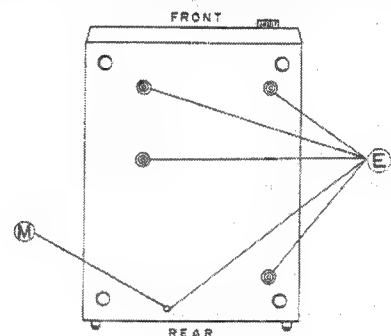
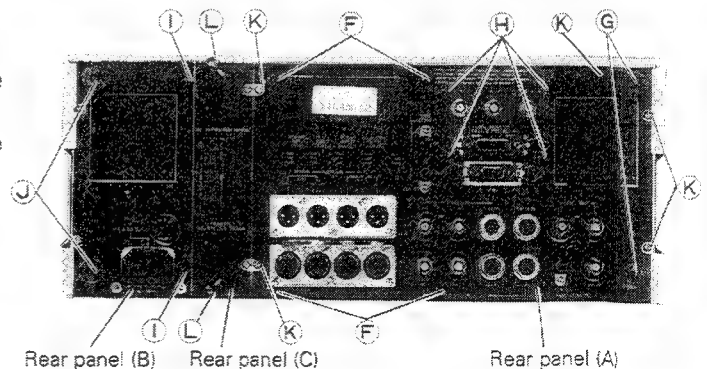

Fig. 1-1-4
Fig. 1-1-5 (45-PIN board is optional.)
2. Remove five screws (K) (see Fig. 1-1-5) and a screw (M) (see Fig. 1-1-4) to remove the rear bracket.
- 1) Remove four screws ⑧ shown in Fig. 1-1-5 and disconnect connectors to remove the board.